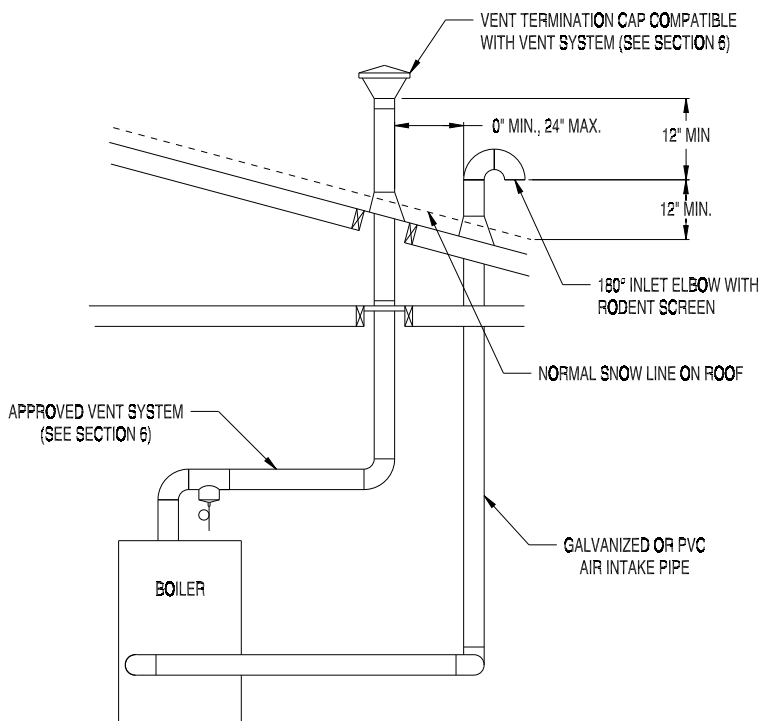

Figure A.6: Vertical Direct Vent System (Vent Options 8-10)
- b. Vertical systems use either the terminal provided with this kit or a 180 degree elbow (either a single fitting or two 90 degree elbows) as shown in Figure A.6 or A.7. Note that the 180 elbow is preferred if the intake terminal is frequently exposed to wind-driven rain. Except in very cold climates where ice build-up is a concern, it is recommended that a rodent screen be installed in the end of the 180 degree elbow. When this is done, use stainless steel, galvanized steel, or non-metallic screen having $\frac{1}{2}$ " mesh.
5. Vertical terminal location - Install the intake terminal as shown in Figure A.6 or A.7. The vertical distance between vent and air inlet terminal openings must be at least 12". The bottom of the air inlet terminal must be at least 12" above the normal snow accumulation that can be expected on the roof.